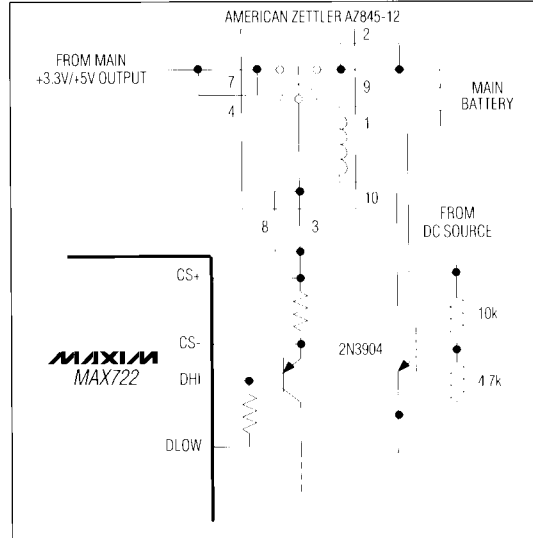
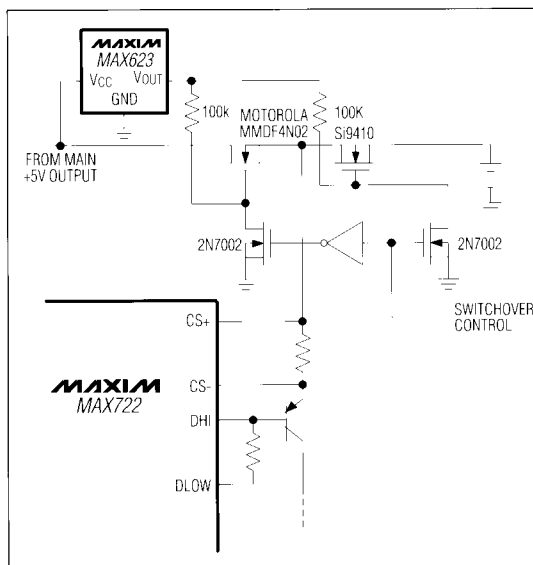

Figure 5. SMT Relay Powers Auxiliary LCD Supply
Figure 6. High-Side MOSFET Switch Powers Auxiliary LCD Supply
2. Power the LCD supply from the main output in linear regulator mode, but power it from the battery when the DC source is absent. This provides the best overall efficiency, but requires a relay or MOSFET switch to make the switchover (Figure 5). In most applications, the battery voltage is too low to use P-channel devices for the switchover, but a high-side supply, such as the MAX623 charge-pump regulator (Figure 6) or the system +12V supply, works well with N-channel switches. Switchover can also be accomplished using special AC/DC adapter plugs and jacks with built-in mechanical switches.